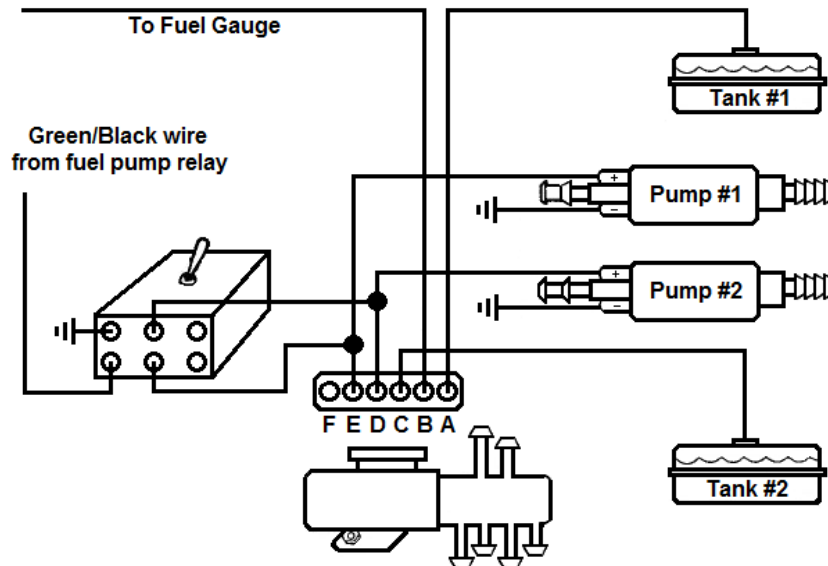

Figure 4: Electrical Connections for Dual Fuel Pumps & Switching Valve
12. Connect position 86 on the relay to the green fuel pump wire in the PRO-JECTION® wiring harness (Fig. 4).